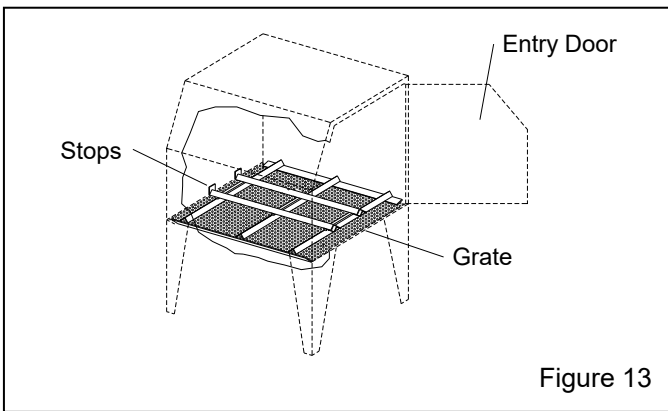

Figure 13
NOTE: The track may be placed on either side of the cabinet, allowing entry through either the right side or left side door; the right side is shown in the illustrations. When installing the inside track, place it so the stops, shown in Figure 13, are opposite the entry door.
3.5.2 Place the inside track in the cabinet over the existing grate, as shown in Figure 13.